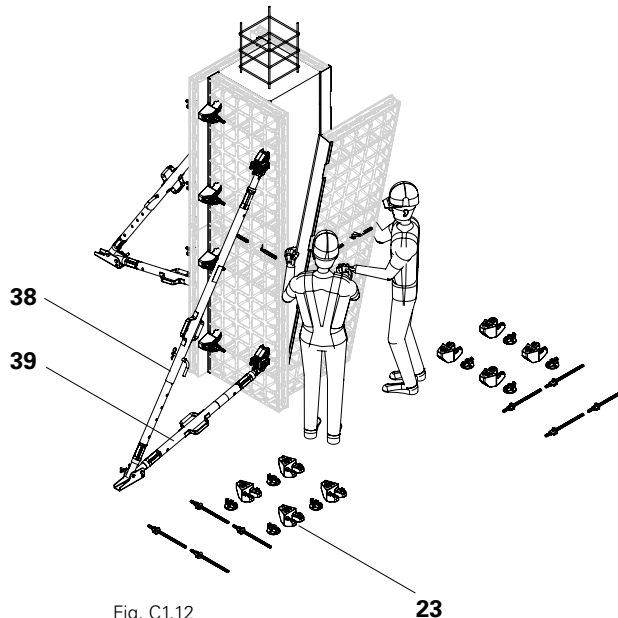

Fig. C1.12
8. Loosen the base plates of the last panel unit, remove the push-pull props and kicker braces and move the panel unit. (Fig. C1.12)
2. Loosen and remove the DUO corner connector (23) on both sides of the panel element. (Fig. C1.12)